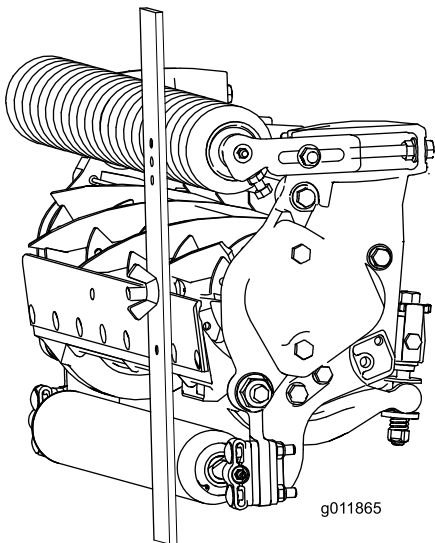

Figure 19
3. Hook the screw head on the cutting edge of the bedknife and rest the rear end of the bar on the rear roller (Figure 19).
4. Rotate the adjusting screw until the front roller contacts the gauge bar (Figure 19). Adjust both ends of roller until the entire roller is parallel to the bedknife.